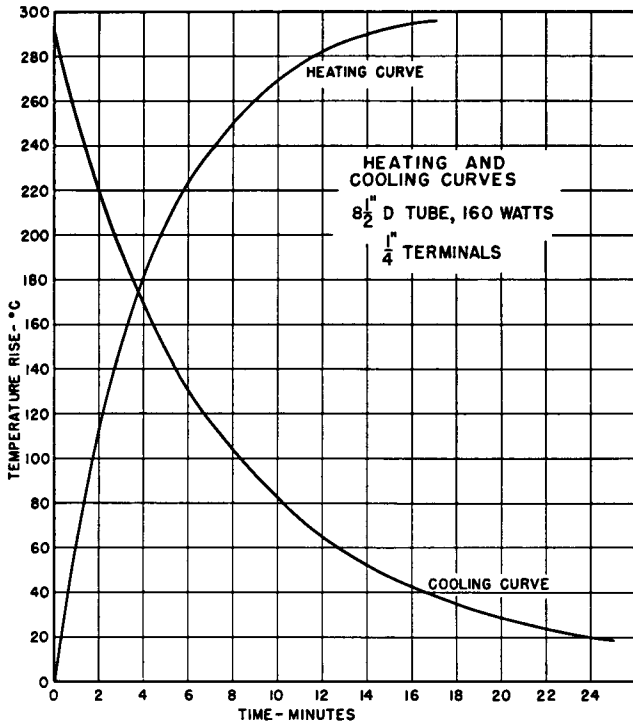

Figure 3-9. Heating and Cooling Curves
Figure 3-9 shows the relationship between the heating and cooling curves for an 8½" D Vitrohm resistor rated at 160 watts. On placing a voltage across the resistor to dissipate full nominal watts (160), the time to reach a temperature rise of 292°C is shown as 17 minutes. Although not shown in Figure 3-9 the heating curve levels off, reaching stabilization (300°C) in about 30 to 45 minutes. Notice that the cooling cycle, i.e., time required for the resistor to reach room temperature is considerably longer than the heating cycle. When the tube is heating the differential between ambient temperature and resistor temperature becomes greater, whereas during the cooling cycle the differential becomes less, since the cooling medium remains constant.